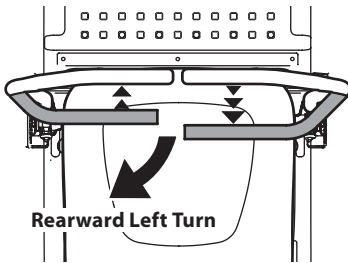

Figure 26
1. To turn to the left while traveling in reverse, move the left drive control lever forward of the right drive control lever (Figure 26).